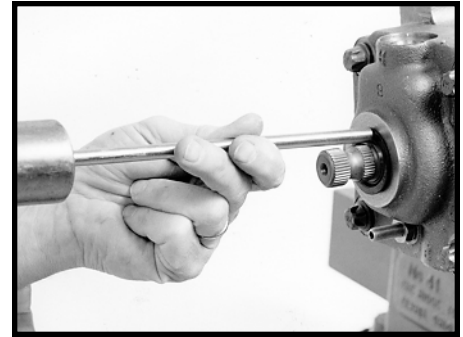

Figure 158
- 49. Pack the area around the input shaft with clean high temperature industrial grease per Ross specification 045231, Mobil Temp 1 or 2 or seal equivalent, and install the new dirt and water seal (4), with part number facing out, using seal driving tool J26654 or suitable blunt-ended drift. SEE FIGURE 158. If the dirt and water seal has a rim, it should be pressed against the valve housing face. If the seal does not have a rim, the seal should be pressed in flush with the valve housing face.